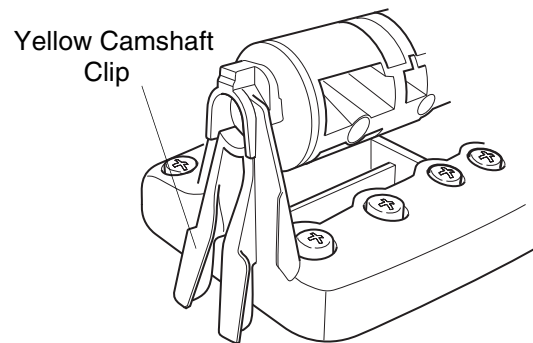
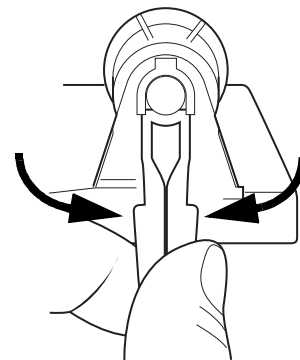

Figure 14
Figure 15
4. Remove the yellow camshaft clip, located at the rear of the camshaft (Figure 14) to remove the camshaft. Push the two ends of the clip together (Figure 15) to remove the clip from the back.